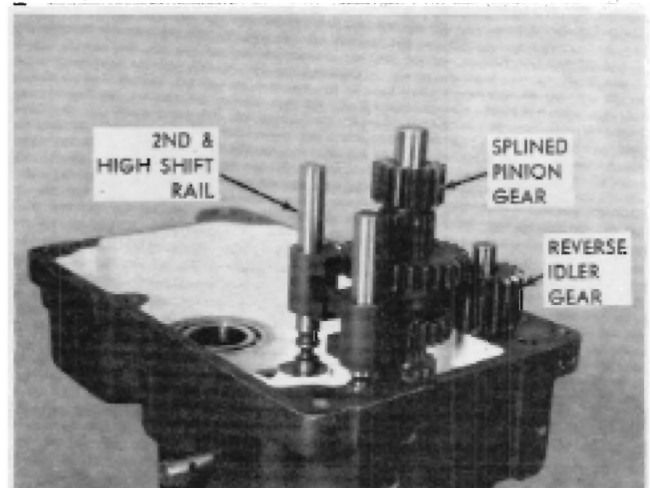

FIGURE 16
15. Install the reverse idler gear shaft and gear assembly making sure the shoulder of the gear goes down. Figure 16.